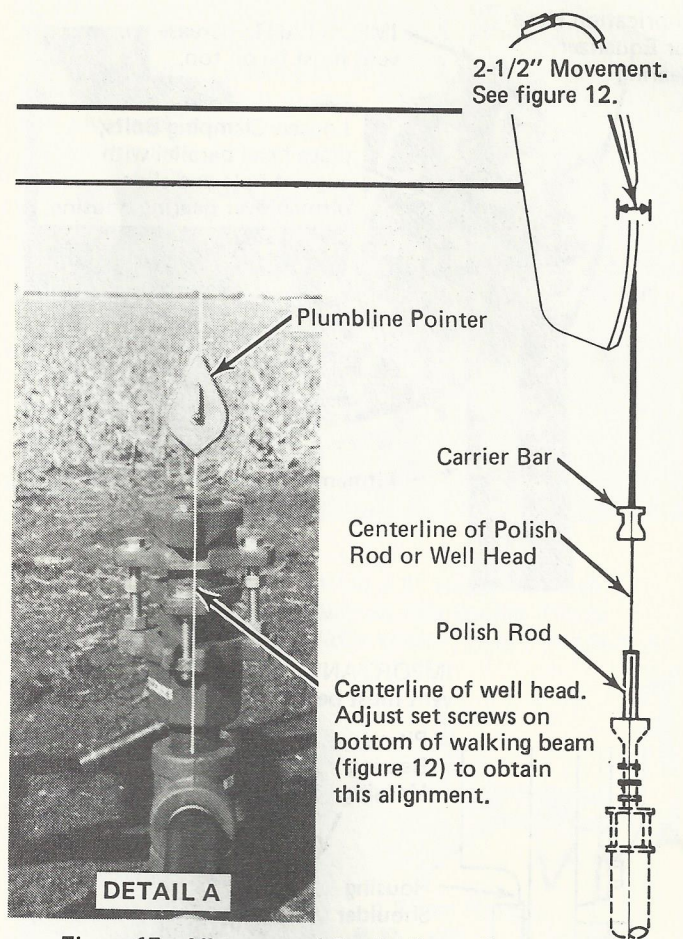

Figure 15. Alignment of Carrier Bar to Polish Rod
15. For alignment of carrier bar with polish rod or centerline of well head, drop a plumbline through centerline of carrier bar and align plumbline with centerline of well head as shown in Detail A of figure 15 or with centerline of polish rod. If adjustment is required (2-1/2-inch adjustment), loosen bolts in slotted holes of walking beam pivot (figure 12) and engage one of the adjusting bolts located at either end of the pivot casting and move the required distance. When alignment has been completed, re-tighten all bolts. After connecting polish rod to carrier bar and full weight of pump is hanging on walking beam, make a final alignment adjustment to assure that wireline is properly tracking the wire track and there is no side pull on the polish rod.